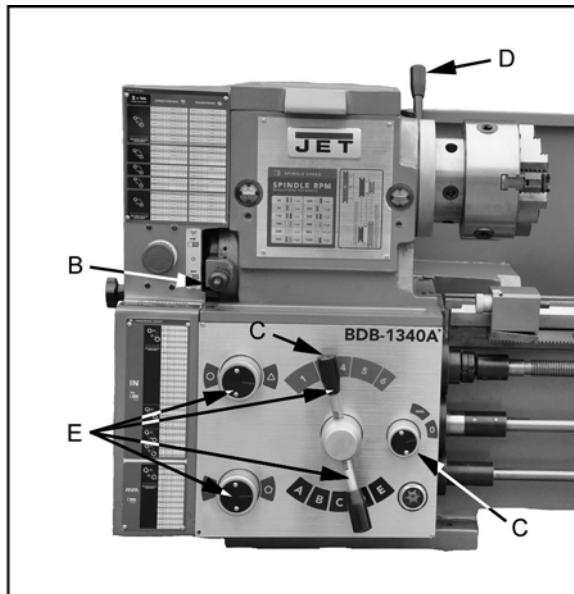

Figure 15
2. **Feed Direction Selector** (B, Fig. 15) – Arrows above the handle indicate saddle travel direction when the chuck is rotating in the forward direction or counter-clockwise as viewed from the front of the chuck.
3. **Feed Rod/Leadscrew Selector** (C, Fig. 15) – Use knob and lever to activate leadscrew and feed rod.
4. **Belt Tensioning Handle** (D, Fig. 15) – Pull forward to release tension on the drive belt. Push toward the rear to tension the belt.
5. **Feed Rate Selector** (E, Fig. 15) – Two knobs and two handles used to set desired feed, or lead rates.